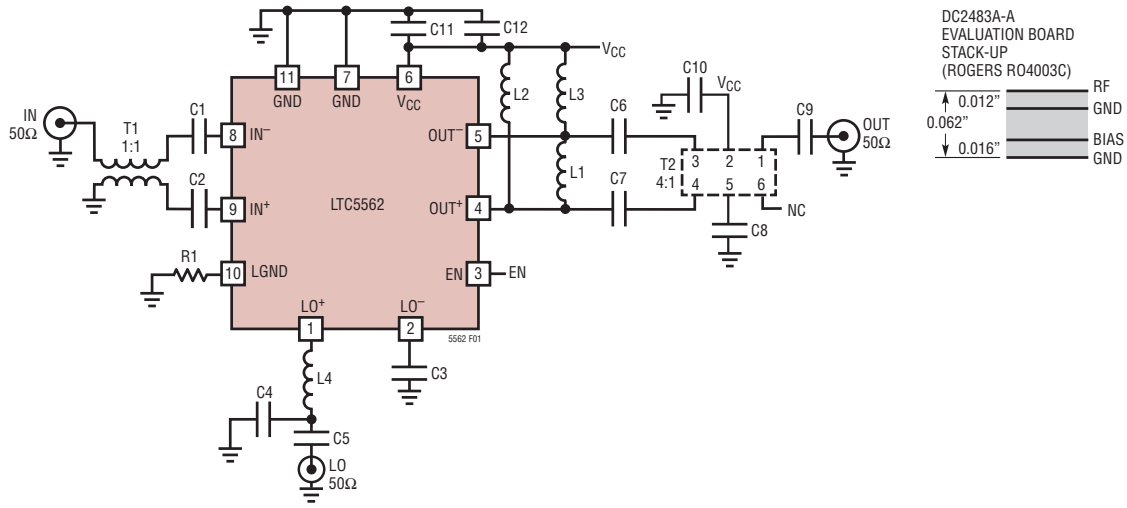
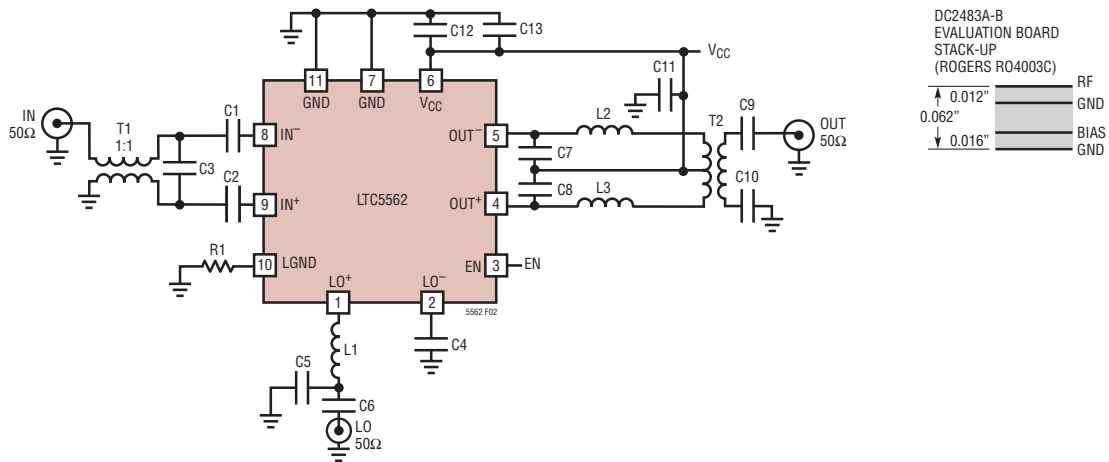

Figure 1. Low Power Upconverting Mixer Test Schematic
Figure 2. Low Power Downconverting Mixer Test Schematic
**TYPICAL DC PERFORMANCE CHARACTERISTICS** (Test Circuit Shown in Figure 1)
High Side LO, Output Measured at 900MHz,  $R_1 = 0\Omega$ , unless otherwise noted. Test Circuit Shown in Figure 1.
Low Side LO, Output Measured at 3.6GHz,  $R1 = 0\Omega$ , unless otherwise noted. Test Circuit Shown in Figure 1.
Low Side LO,  $R1 = 0\Omega$ , Output Measured at 800MHz, unless otherwise noted. Test Circuit Shown in Figure 2.
The upconverting test circuit, shown in Figure 1, utilizes bandpass matching and a 4:1 multilayer chip balun to realize a single-ended output. The downconverting test circuit, in Figure 2, uses a 8:1 wire-wound balun. The outputs may also be used to provide a differential signal, if DC blocking capacitors are used to isolate the output. Test circuit schematics showing all external components required for the data sheet specified performance are shown in Figures 1 and 2. Additional components may be used to modify the DC supply current or frequency response, which will be discussed in the following sections.